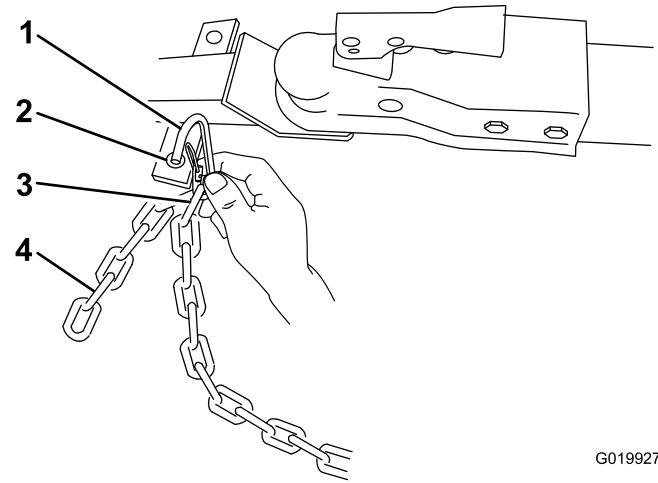

Figure 18
3. Connect each length of chain to the safety chain mounting point on the tow vehicle with the connecting links (Figure 18).